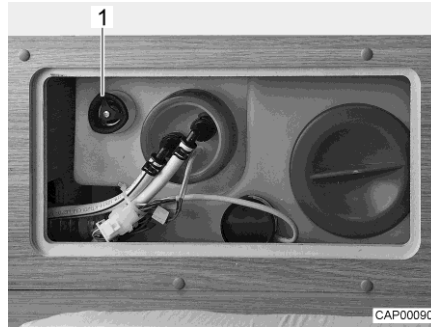

Fig. 119 Water tank with rotary handle
- Turn the rotary handle (Fig. 119,1) on the water tank in an anticlockwise direction as far as possible beyond the resistance to fully open the drainage opening.